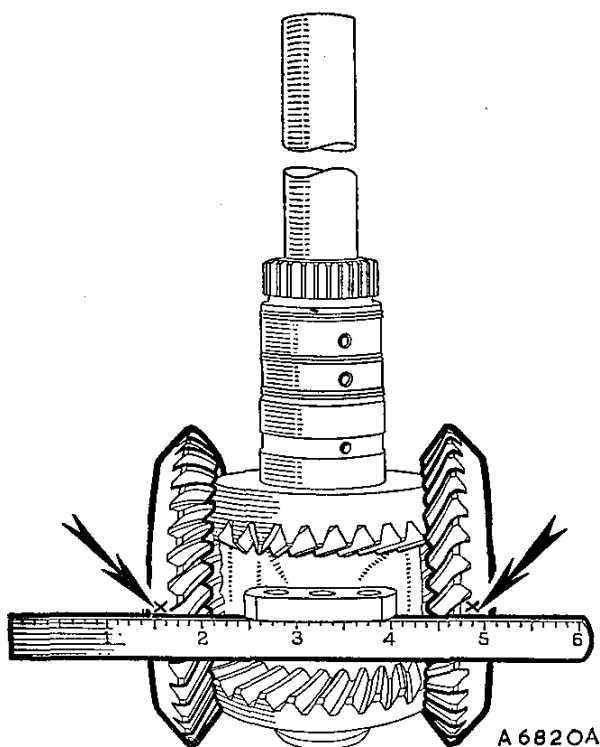

Fig. Fa.45
(21) Insert Service tool 18G 1093 A through the forward output gear and the assembly to ensure correct alignment.
(22) Check and reset the timing of the gear train (see Fig. Fa.45) by rotating the planetary gears until the timing marks are in alignment.
(23) Retain the timed position of the gear train and refit to the carrier ensuring that both timing marks align with the dowel surface of the carrier.